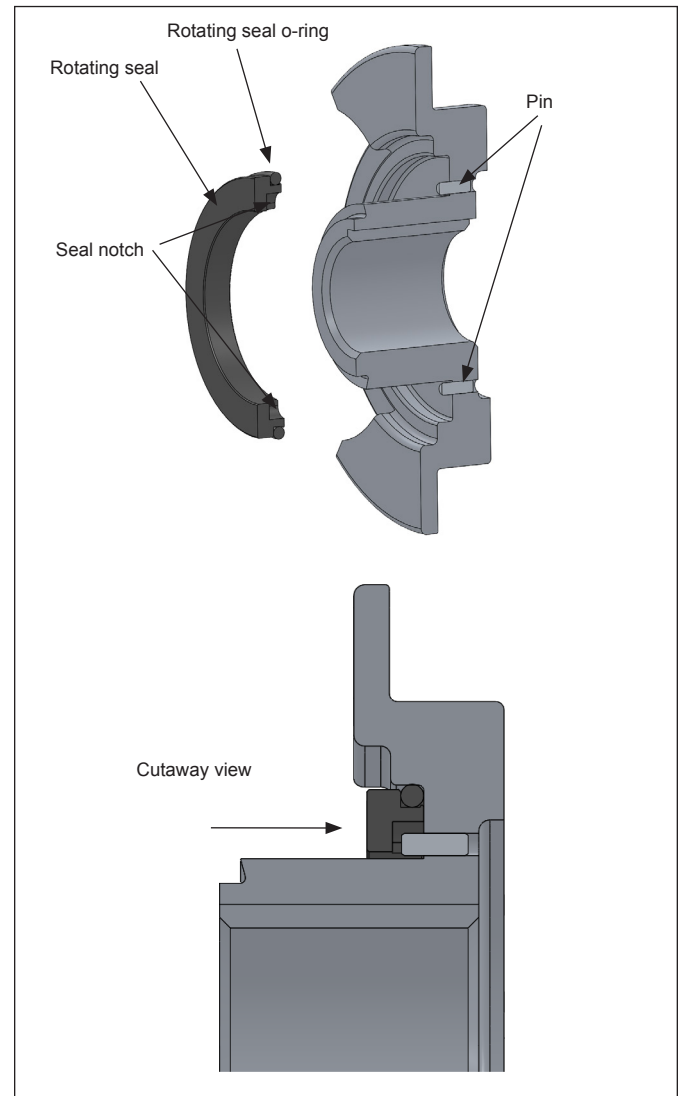

Figure 30. Inserting Rotating O-Ring
- Slide the rotating seal onto the rotor hub (*Figure 30*) making sure to align the slots on the seal to the drive pins in the rotor. Press the seal down until it seats inside of the rotor.